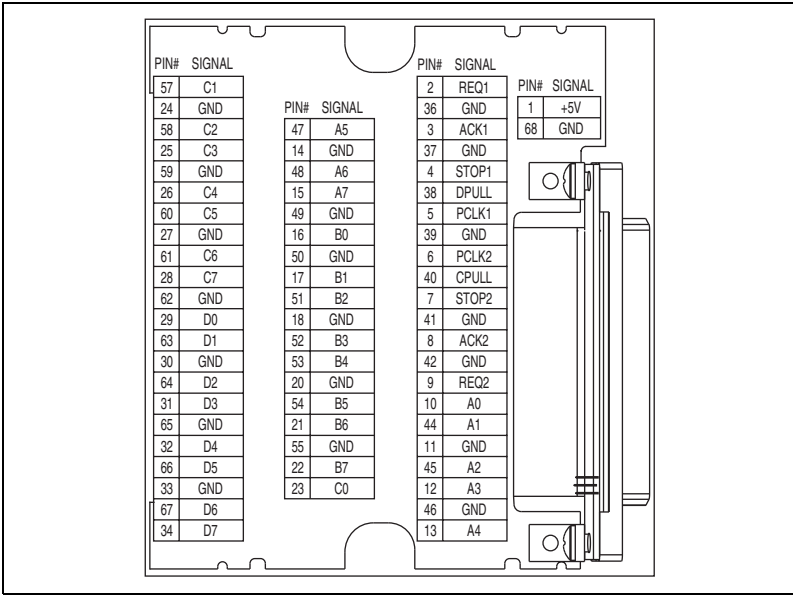

Figure 3. Pinout Diagram for PXI-653X Modules
5. Use Figures 3 and 4 to find the 653X and 660X signals that correspond to the screw terminals on the TB-2715. Please note that lines 19, 35, 43, and 56 are not connected.